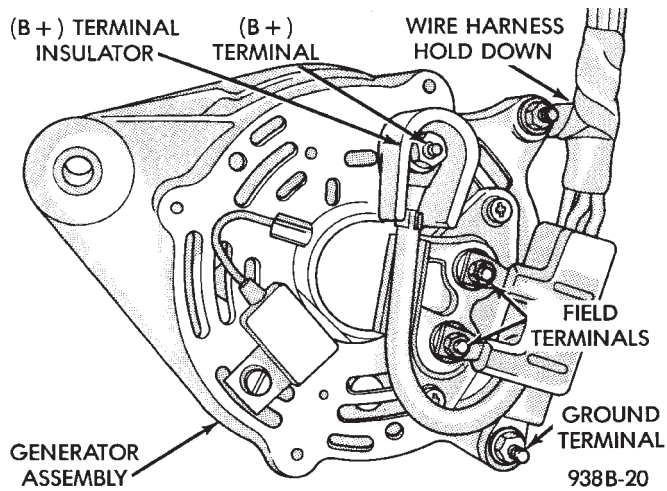

Fig. 4 Remove or Install Wire Connector Assembly—Bosch Generator
- BOSCH GENERATOR. Remove B+ terminal nut, field terminal nuts, and ground harness hold down nuts (Fig. 4). Remove wire connector assembly.